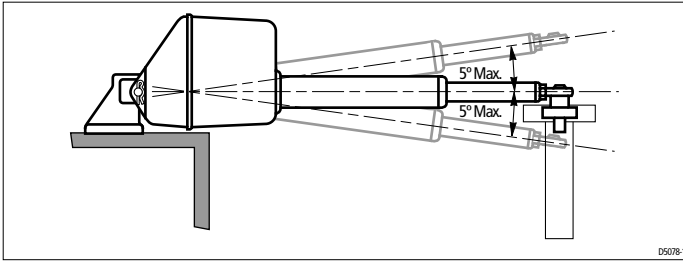

Figure 5: Alignment between push rod and tiller arm plane of rotation
- The push rod must be accurately aligned with the tiller arm plane of rotation. The ball end fitting only allows up to 5 degrees misalignment between the push rod and tiller arm plane of rotation (see *Figure 5*).
- Angular movement of the ball end fitting is less than 5 degrees (see *Figure 5*). If you exceed this 5 degree limit, the drive will catch on the tiller arm/rudder quadrant and the ball joint will bind.